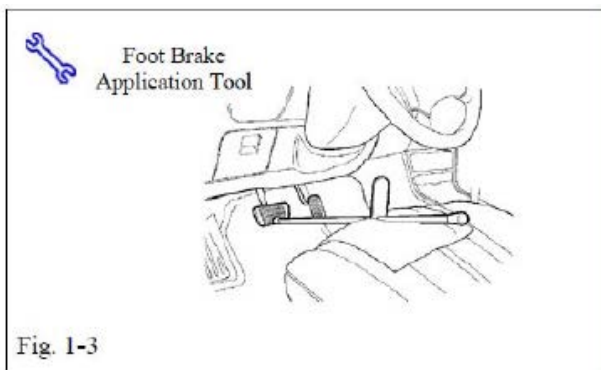

Figure 3
- (c.) Add seat protection (blanket) and apply foot brake using foot brake application. (Optional Step). Lift Vehicle. See Figure 3.